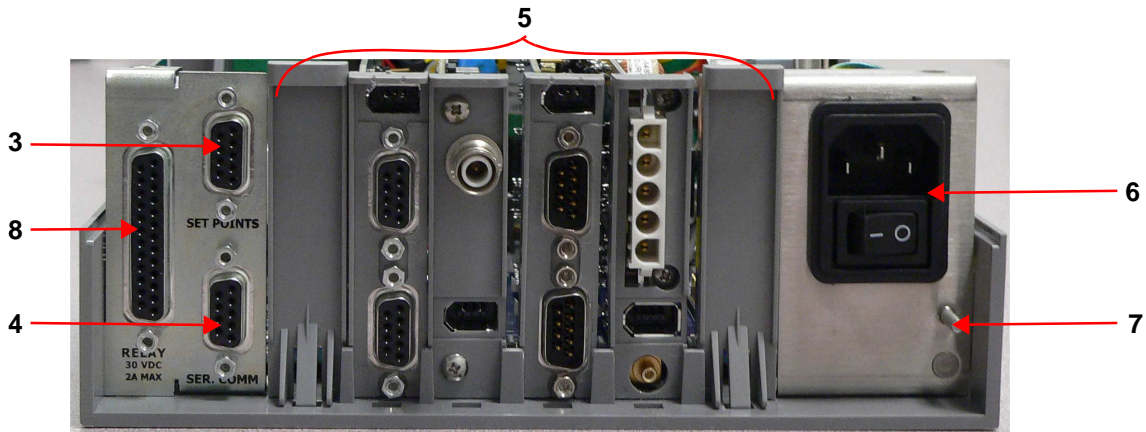

Figure 1-2 Backplate Connections (CNV, IMG, Analog and HFIG boards shown)
When installing and HFIG cable, make sure to connect the pig tails from the ground cable to the ground stud. See item 7 in Figure 1-2.